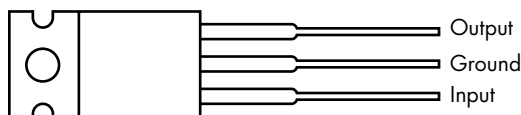

Figure 4-5: LM7805 regulator pinout in a TO-220 package
6. Insert the LM7805 regulator, and connect the output pin to the red positive rail. (Figure 4-5 shows the regulator pinout.)